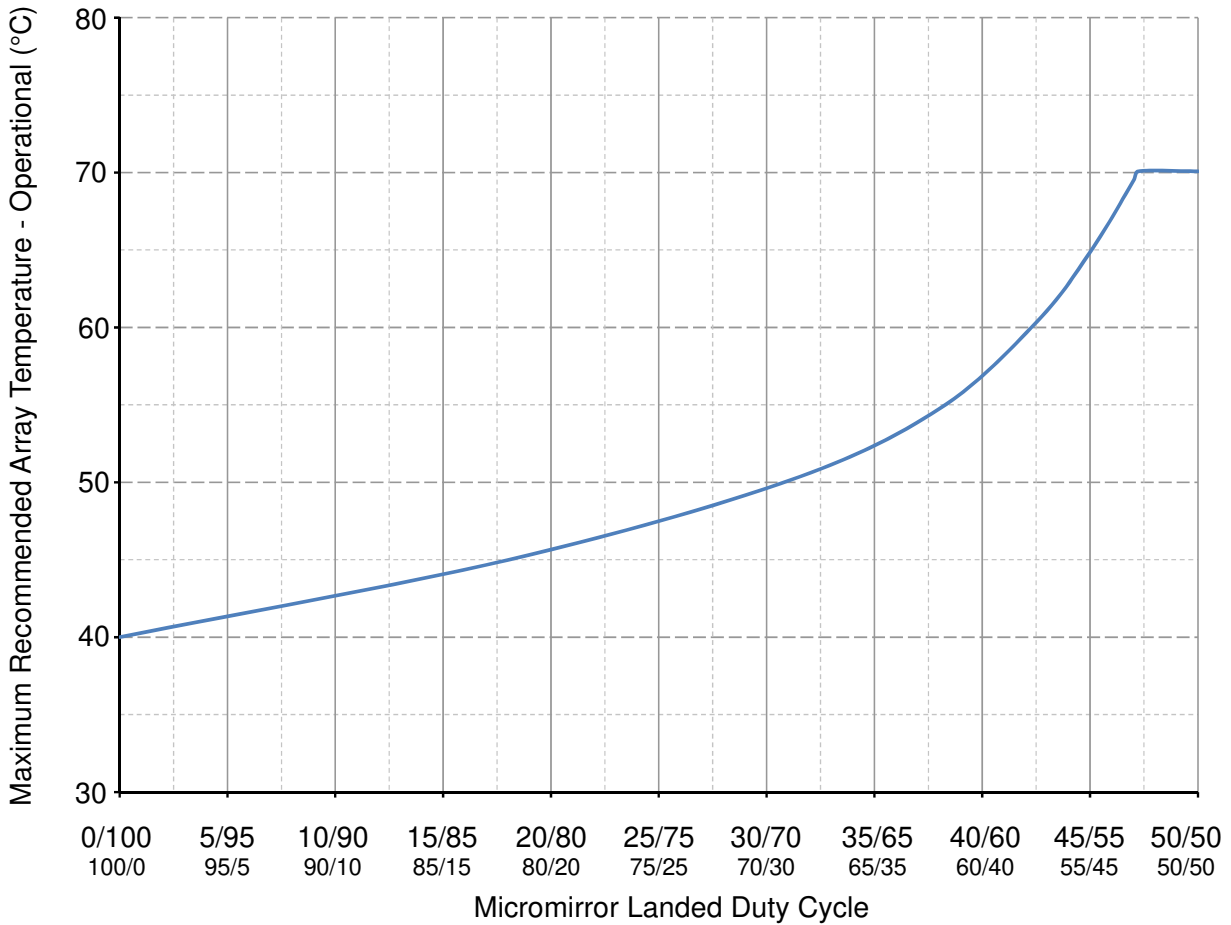

图 5-1. Maximum Recommended Array Temperature—Derating Curve
- Per 图 5-1, the maximum operational array temperature should be derated based on the micromirror landed duty cycle that the DMD experiences in the end application. See 节 6.8 for a definition of micromirror landed duty cycle.